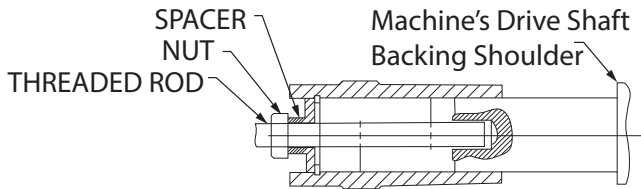
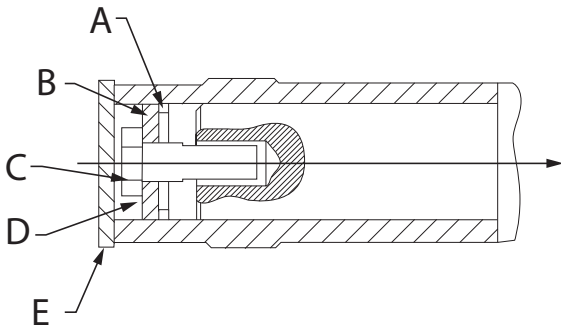

Figure 4 - Threaded Rod and Nut Assembly
Figure 5 - Finished Assembly
For 3-Piece Coupled Input Reducers (Reference Figure 1)	For Clamp Collar Input Reducers (Reference Figure 4)
All shaft mounted gearboxes are furnished with A) Retaining Ring B) Keeper plate C) Retaining Bolt D) Spring Washer E) Dust Cap and Anti-Seize as shown in the finished assembly, Figure 5. Apply the anti-seize onto the customer shaft before installing reducer onto the shaft. The gearbox is pulled onto the shaft by means of a threaded rod and nut assembly as shown in Figure 4 below. The threaded rod and spacer are not supplied. The threaded rod (M) is specified in Table 5 or 6. After the gearbox has been pulled completely onto the machine shaft firmly against the machine shaft's backing shoulder, it must be locked in place with the retaining bolt tightened to the tightening torque shown in Table 4.